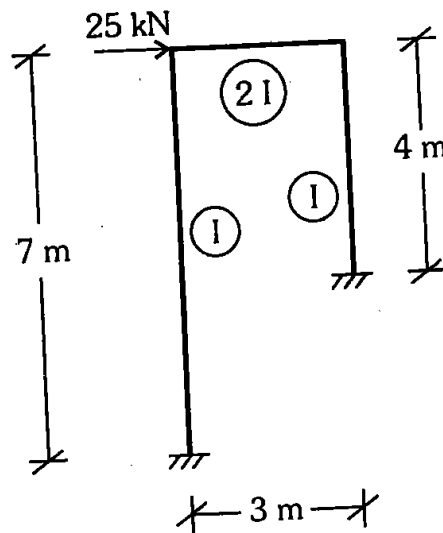

Fig. 1
2. Analyse the frame as shown in Fig 1. Draw Bending Moment diagram also. 14